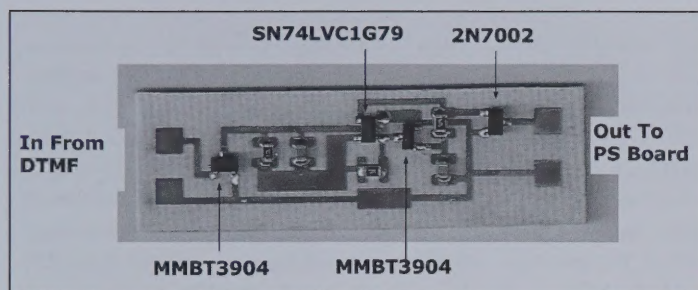
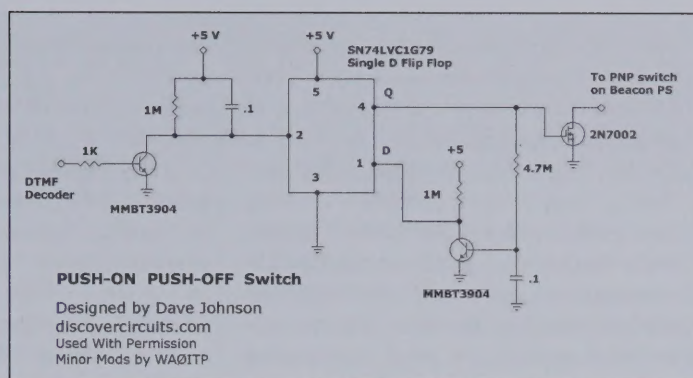

Figure 5—Controller flip-flop board.
Figure 6—Controller circuit schematic.
Figure 6 shows the controller schematic and Figure 5 is a picture of the SMT flip-flop board that I produced. The input and output have been slightly modified from Dave Johnson's original circuit. Dave is the owner of DiscoverCircuits.com. and his circuit is used with permission. If you're a schematic junkie like I am,
**Figure 6—Front of the test set. Switch positions 1 and 2 select the dummy load or antenna. The 3 position switch for the phono connector selects the -20 dB RF sample or diode detector output (“RF volts”).**
RF output. A switch allows the rig to be connected to either a dummy load or antenna. Figure 5 shows the schematic, and Figures 6 and 7 show the unit.